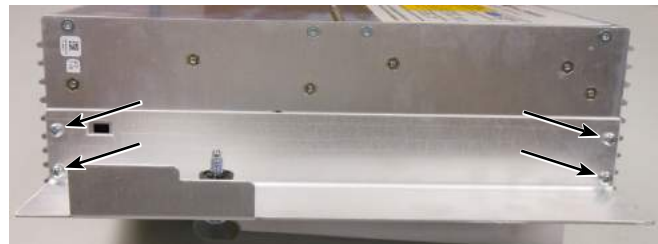

Figure 42. Removal of latch bracket from CL-7 control
2. Using a screwdriver, remove the four screws to uninstall the existing latch bracket from the left side of the CL-7 control; retain the screws. See **Figure 42**.